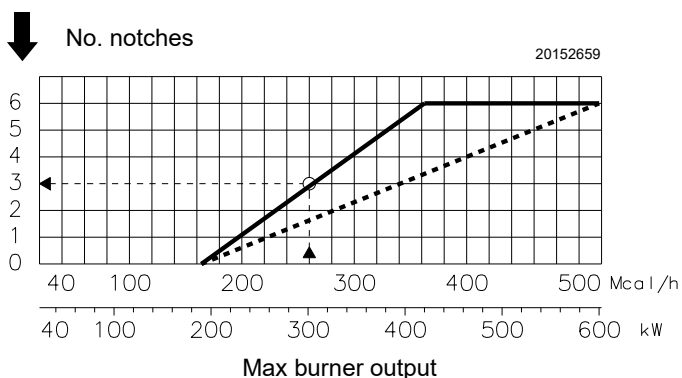
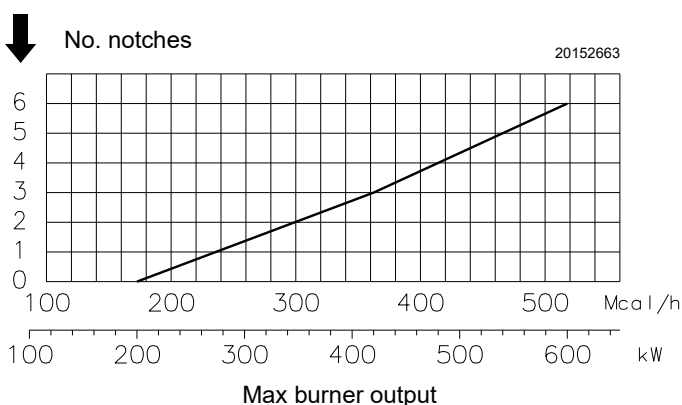
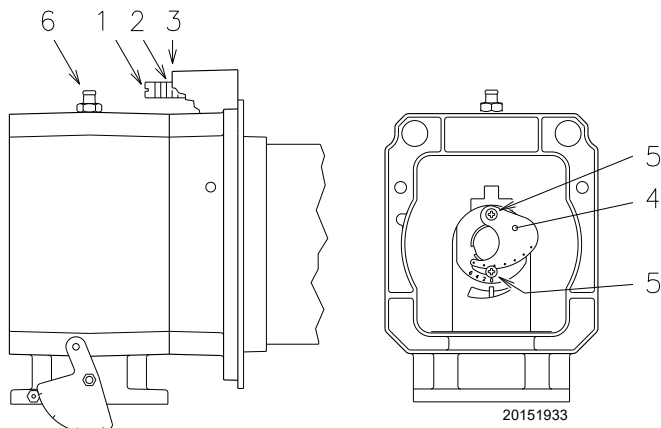

Fig. 16
Fig. 17
Fig. 15
Installation operations are now at the stage where the blast tube and sleeve are secured to the boiler as shown in Fig. 15.
Air adjustment (Fig. 15 - Fig. 16)
From diagram (Fig. 16) you can see that, for the MAX output of 300 kW, the air should be adjusted at notch 3, subtracted from the value of the pressure in the chamber.
If the pressure in the chamber is equal to 0 mbar, the air is adjusted with reference to the broken line of the diagram Fig. 16.
- In case the application needs a particular setup, it is possible to modify the central air delivery using the ring nut 4)(Fig. 15) up to the notch indicated in diagram (Fig. 17).
- In order to carry out this operation, unscrew the screws 5)(Fig. 15) and rotate the ring nut 4)(Fig. 15).
- At the end, tighten the screws 5)(Fig. 15) again.